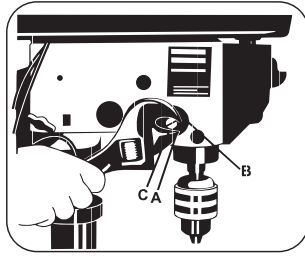

FIGURE 8.17
- Move the lock nuts to the lowest position, and lock them in this position with a tool. This will prevent the spindle from falling when actuated by the spring (Figure 8.17).
- Place the screw driver in the lower front slit (A) on the spring cover (B), and keep it in this position while loosening and removing the nuts.
- Tighten the lower nut (C) with the tool.
- Check the spindle when moving the handle. The movement of the spindle must be smooth, without restricted movements. If the movement is too tight, loosen the nuts so that it moves without difficulty (Figure 8.17).